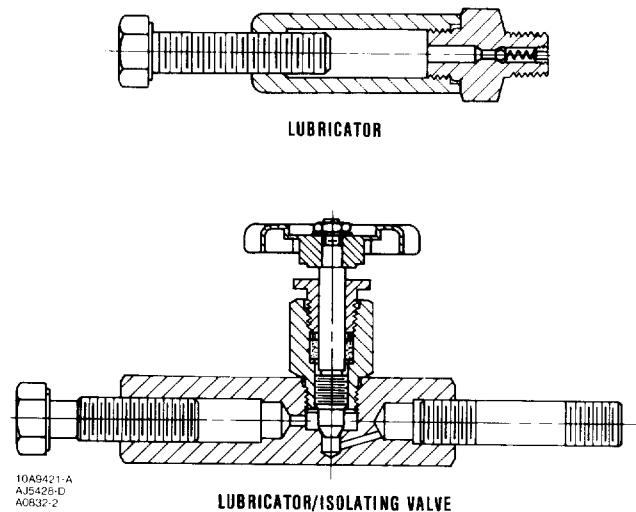

Figure 2. Lubricator and Lubricator/Isolating Valve
If a lubricator or lubricator/isolating valve (figure 2) is provided for TFE/asbestos or other packings that require lubrication, it will be installed in place of the pipe plug (key 14, figure 5). Use a good quality silicon-base lubricant. Packing used in oxygen service or in processes with temperatures over 500°F (260°C) should not be lubricated. To operate the lubricator, simply turn the cap screw clockwise to force the lubricant into the packing box. The lubricator/isolating valve operates the same way except the isolating valve must first be opened and then closed after lubrication is completed.